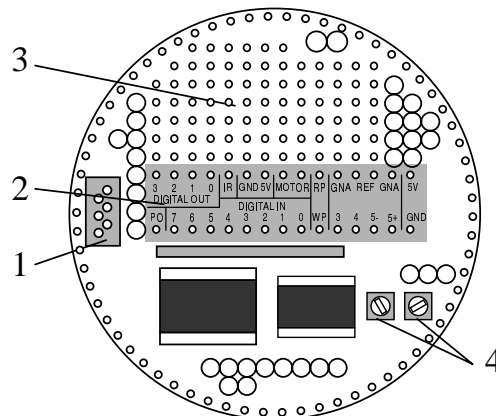
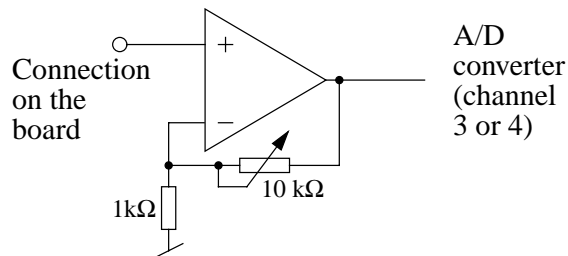

Figure 1: Overview of the turret layout.
Figure 7: Input circuit for analog inputs 3 and 4.
The I/O connections are situated in a specific area of the module as described in figure 1 (point 2) and detailed in the next sections. Three lines of text on the printed circuit help in finding the position of the different pins.
- A rail-to-rail I/O amplifier with adjustable gain has been wired at the input of channels 3 and 4, as showed in Figure 7. The variable resistance can be adjusted with a little screwdriver (point 4 of Figure 1).